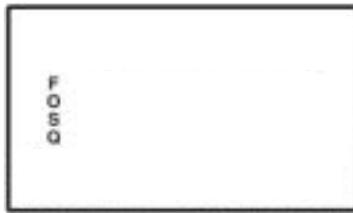

Figure 6–10 FOSQ Screen - Part 1
2. The screen in Figure 6–11 allows you to choose whether or not you want to answer the FOSQ questionnaire. Choose one of the following options: